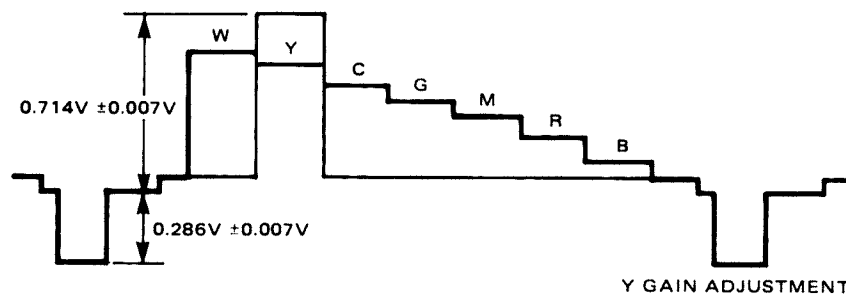

Figure 5-20. Y Gain Adjustment
STEP 2 Adjust R36 (Y GAIN) so that Y output signal level is $0.714V \pm 0.007V$ (excluding sync) (Figure 5-20).
STEP 3 Adjust R40 (SYNC LEVEL) so that sync level is $0.286V \pm 0.007V$ (Figure 5-20).